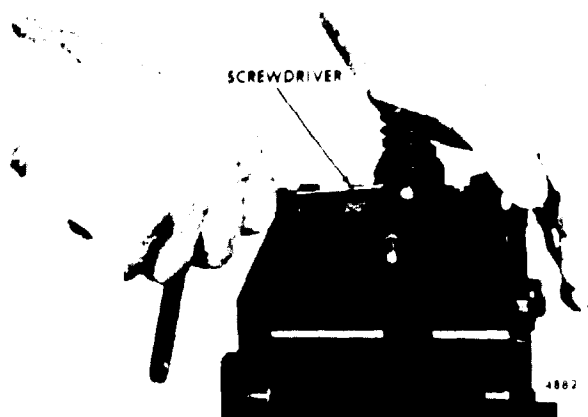

Figure 11C-10. Removing Injector Follower Stop Pin
4. Inspect the plunger. If the plunger is chipped ( Figure 11C-11 on page 11C-8), replace the plunger and bushing assembly.